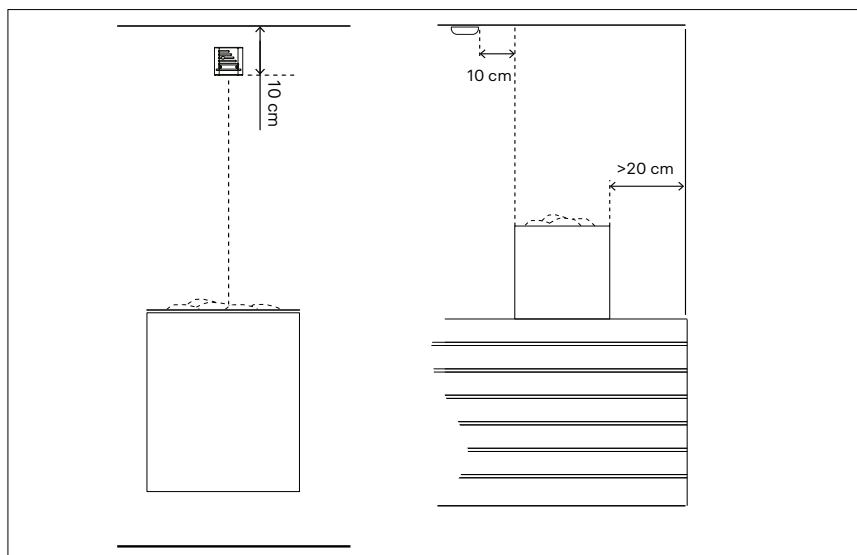

Figure 6.6-1 Installation of the temperature sensor on the wall or ceiling
The temperature sensor is installed above the heater, either on the wall or the ceiling (Figure 6.6-1).
- The temperature sensor with overheat protector is a low-voltage component that is installed either on the sauna wall or ceiling above the sauna heater (Figure 6.6-1).